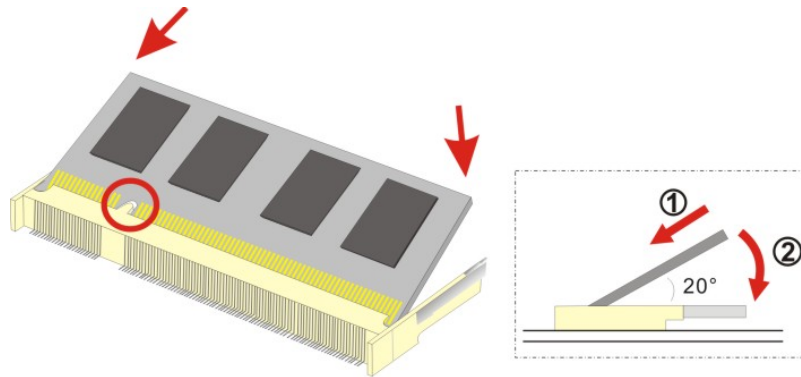

Figure 3-5: SO-DIMM Installation
Step 3: Align the SO-DIMM with the socket. The SO-DIMM must be oriented in such a way that the notch in the middle of the SO-DIMM must be aligned with the plastic bridge in the socket (**Figure 3-5**).
Step 4: Push the SO-DIMM into the socket at an angle (**Figure 3-5**).
- Step 5:** Gently pull the arms of the SO-DIMM socket out and push the rear of the SO-DIMM down (**Figure 3-5**).